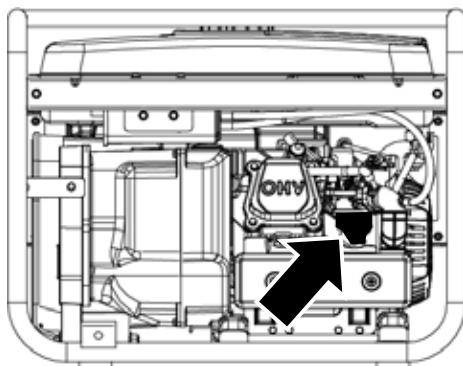

Figure 15: Carburetor float bowl
1. Locate carburetor float bowl above air filter (see Figure 15).